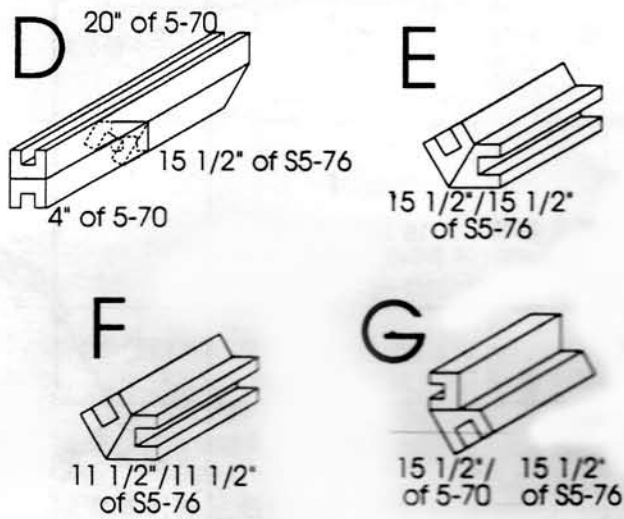

Figure 9
1. Assemble longframe assembly "D" by cutting a 24" piece of 5-70 into a 4" and a 20" piece. Using the 20" piece of 5-70, the 4" piece of 5-70, and one 15 1/2" piece of S5-7, assemble longframe assembly "D" as in Figure 9. Cut the 5-70 from the same stick to reduce waste.
2. Assemble longframe assembly "E" using two 15 1/2" pieces of S5-76. See Figure 9.
of S5-76. See Figure 9. Cut these from the same 24" stick to reduce waste.
4. Assemble longframe assembly "G" using one 15 1/2" piece of 5-70 and one 15 1/2" piece of S5-76. See Figure 9.